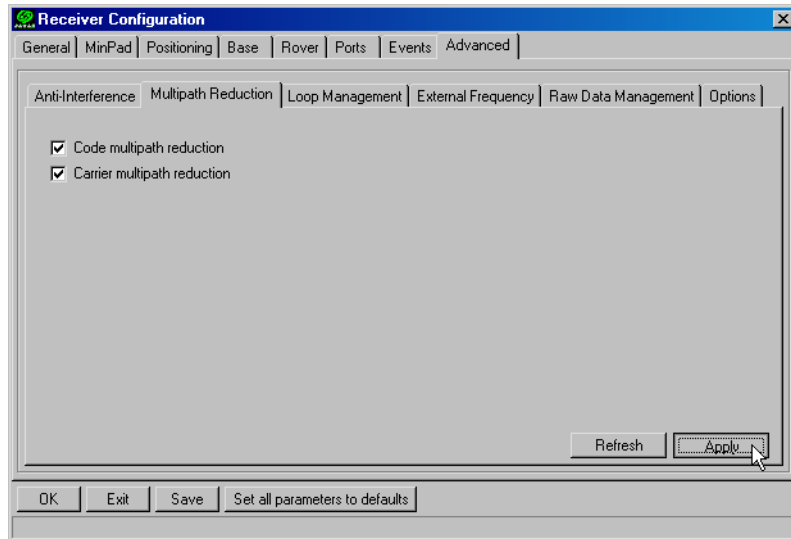

Figure 3-6. Advanced->Multipath
3. Click the **Advanced** tab and then the **Multipath** tab, set the following parameters, then click **Apply** (Figure 3-6 on page 91):